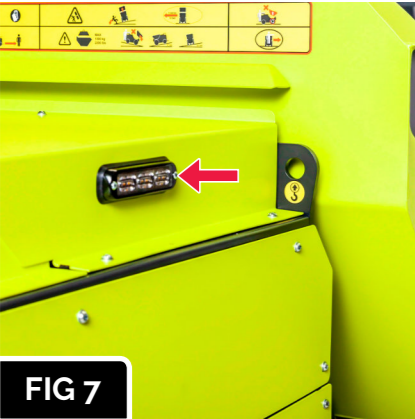

FIG 7
- Ensure the flashing beacon, multi function display, hi tip lever function and the emergency stop button are all working correctly. Follow the instructions (fig 7 to fig 10).